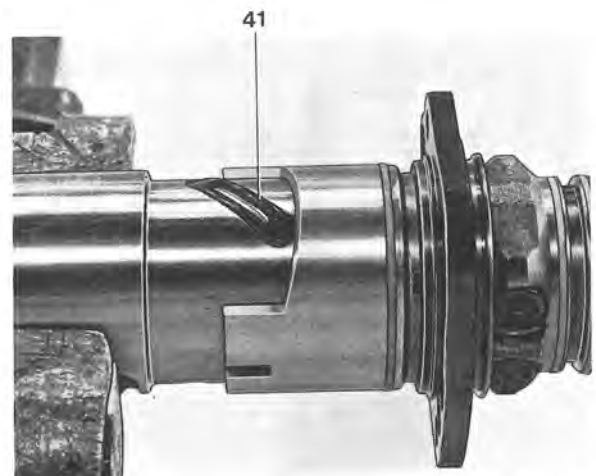
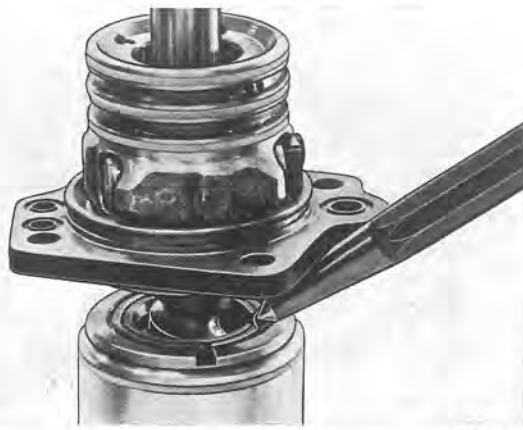

Fig. 6-80. Packing installed
Fig. 6-81. Locking the ring
Insert the worm into the piston while fitting the 23 balls, see under point 7. Fit the packing (41), see Fig. 6-80. Assemble the piston and sleeve and fit the pin (23), if it was removed. The sleeve recess should be on the tooth side, see Fig. 6-81. Warning! The worm must not be pulled so far out of the pistons that the balls fall out (into the piston). Pull out the ring (27) and lock it, see Fig. 6-81. Protect the worm from any metal filings.